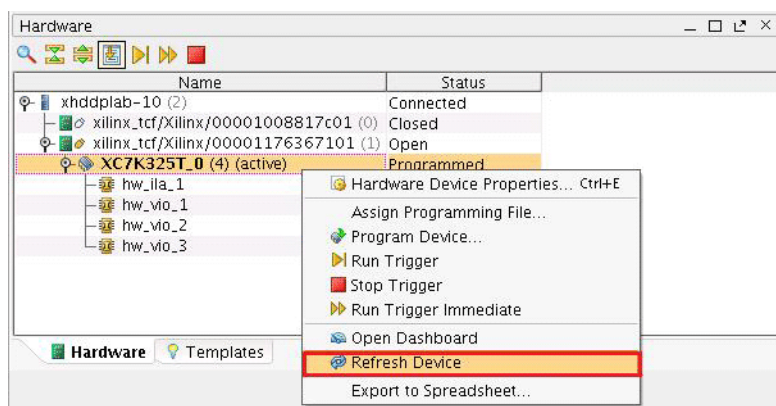

Figure 24: Refresh Device
11. When programming completes, right-click the programmed target device in the Hardware list and select **Refresh Device** (Figure 24).